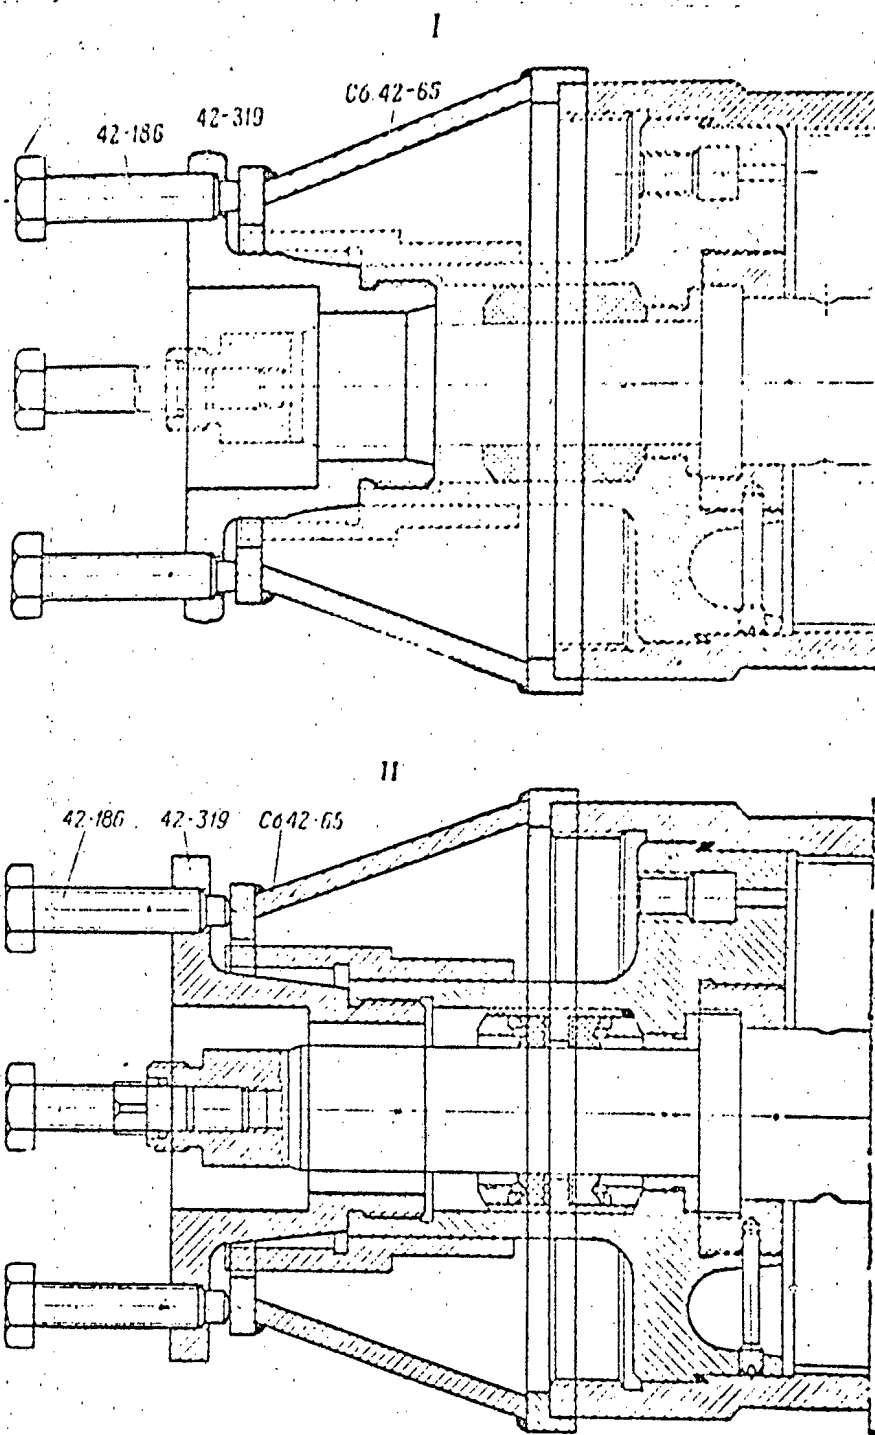

Fig 33. Tool (Sb 42-45) For Disassembling Recoil Brake
- use wrench S642-61 to unscrew packing nut 43 and replace it with the S642-45 tool (Fig. 33) for disassembling the recoil brake; after tightening the tool bolts with wrench A52830-5, gradually unscrew the front cover 39 (Fig. 25) together with the throttling bar; pour the fluid out of the recoil brake into a clean dish.